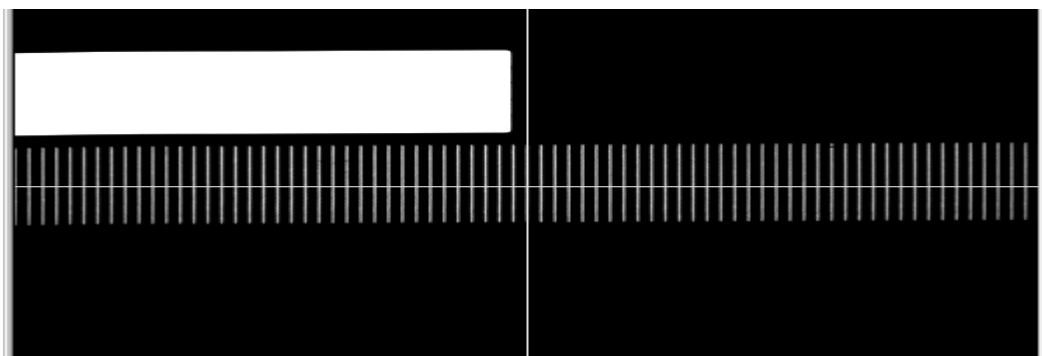

Fig. 5-250 Correct orientation of calibration sample for X scanner calibration
- The calibration standard has to be positioned as indicated in Fig. 5-250.
- After calibration of X-axis the orientation of the calibration grid in the calibration window changes from horizontal to vertical orientation. The second grid of the calibration sample has to be selected and again positioned as indicated in Fig. 5-250.
(4) Important notes and hints